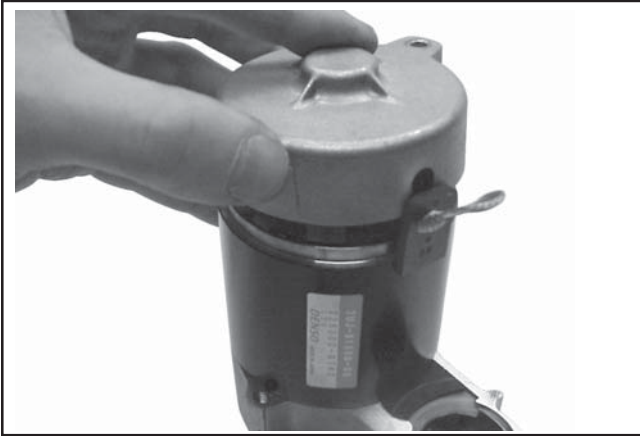

Figure 8-68. Installing End Cap.
11. Remove the tool and install the commutator end cap, aligning the cutout with the insulating grommet. See Figure 8-68.